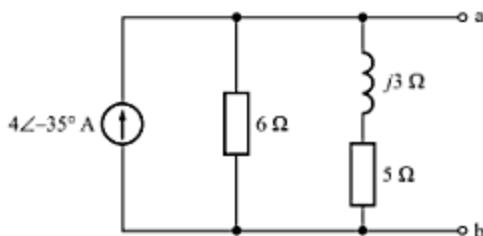

Fig. C-63
- C-94. Find Thevenin's equivalent across a and b for the circuit given in Fig. C-63.